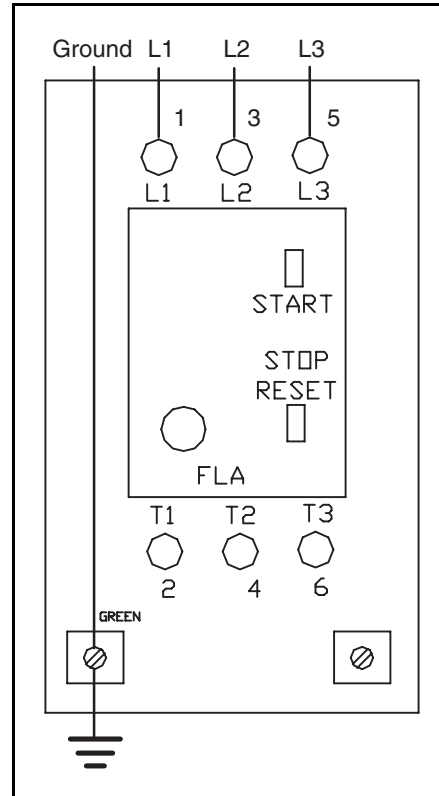

Figure 23
- Insert line cord through grip (AR) and tighten nut.
- For correct three-phase motor shaft rotation, connect line phase sequence L1, L2 & L3 to terminals as shown (Figure 23).
The motor ground wire is also attached to left terminal marked \perp (Figure 23).
- Attach ground wire to lower left terminal marked \perp (Figure 23).